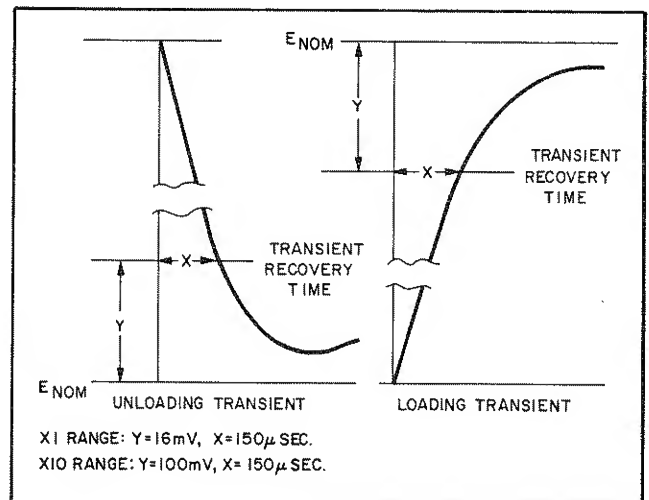

Figure 5-6. Transient Recovery Time, Waveforms
h. Starting from the major graticule division representative of time zero, count to the right 150 µsec and vertically 100mV. Recovery should be within these tolerances as illustrated in Figure 5-6.
j. The transient recovery should be within 16mV at 150µsec as illustrated in Figure 5-6.